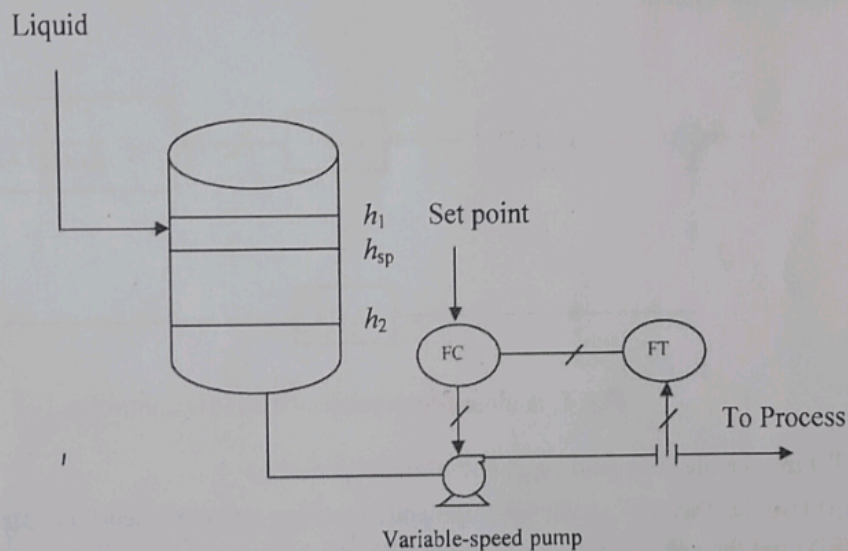

Fig. 2. The liquid tank under flow control.
- Q3.** (a) Consider a liquid tank system shown in Fig. 2. The liquid level should be maintained above height h_2 to avoid cavitation at the pump.